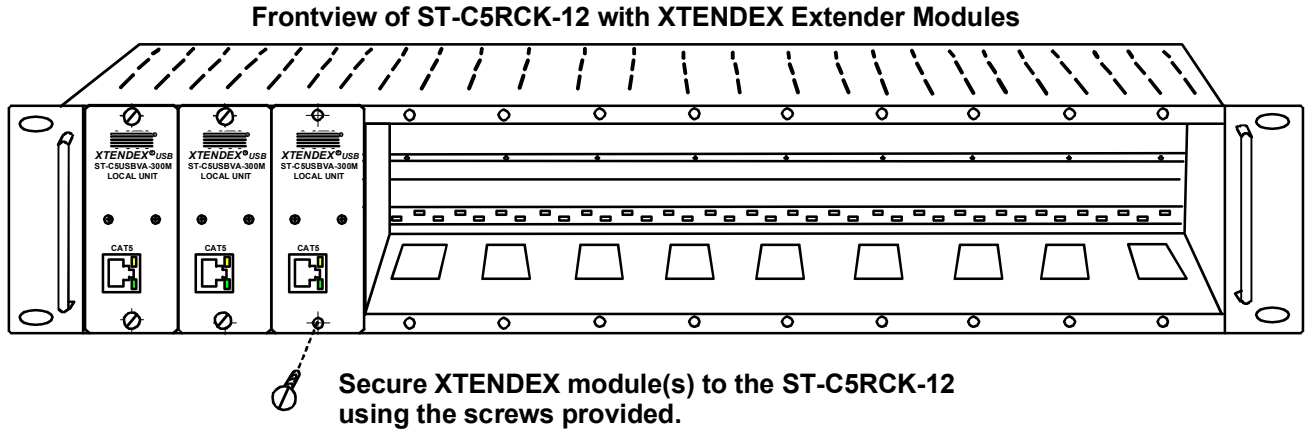

Figure 10- Secure each module to the tray
2. If a MAC CPU is connected, press the <M> key. The keyboard LEDs will momentarily flash and the “MAC” LED on the Remote Unit will illuminate to indicate MAC Mode is ON. (See Fig. 10)